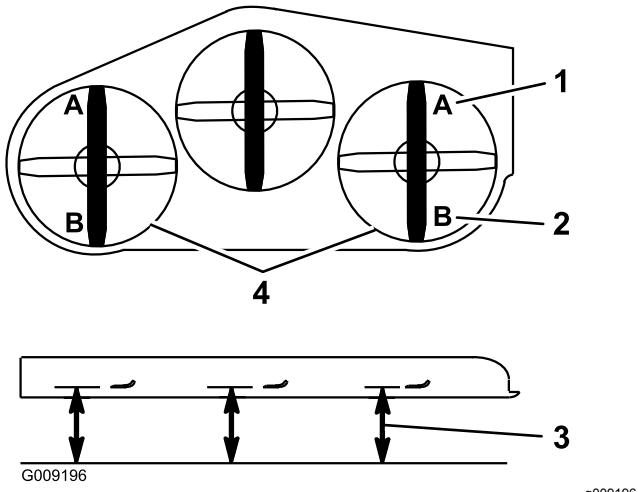

Figure 92
9. On both sides of the deck, measure from the level surface to the front tip of the blade (Position A) as shown in Figure 92.
15. On both sides of the deck, measure from the level surface to the back tip of the blade (postion B) as shown in Figure 92.